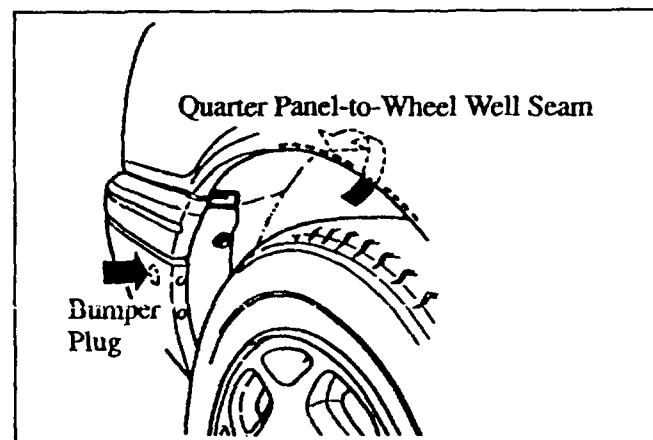

Figure 18: Bumper Plug and Wheel Test Area
- Inner wheel well-to-quarter panel seam and bumper plug. **Figure 18.**